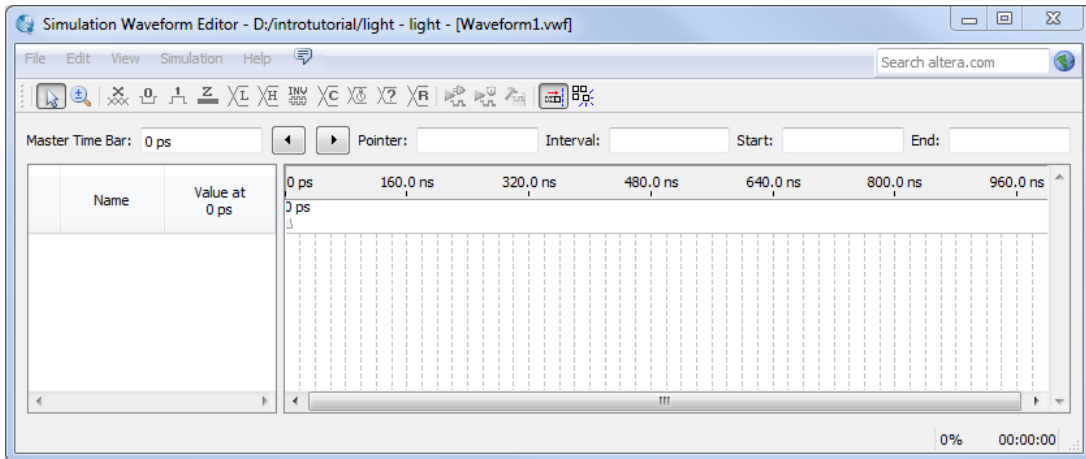
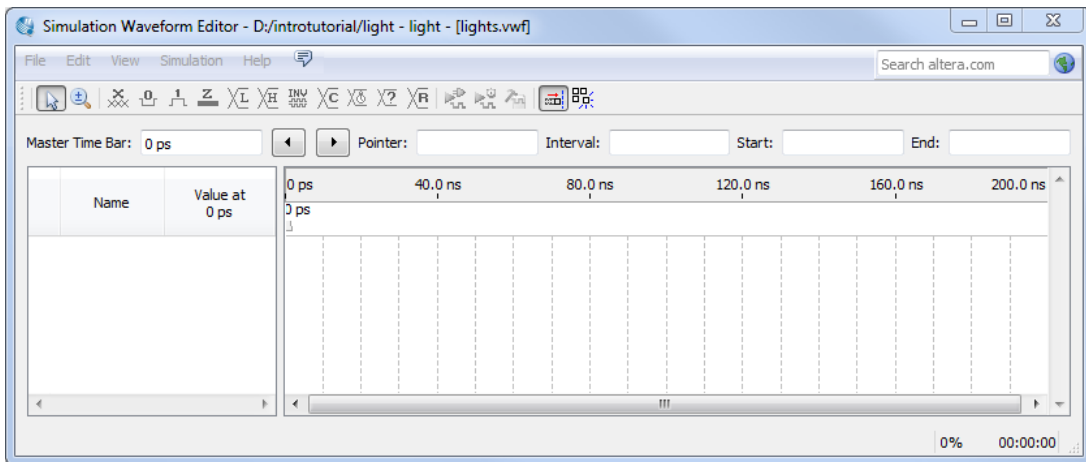

Figure 28. The Waveform Editor window.
Figure 29. The augmented Waveform Editor window.
2. The Simulation Waveform Editor window is depicted in Figure 28. Save the file under the name *lab1.vwf*; note that this changes the name in the displayed window. Set the desired simulation to run from 0 to 200 ns by selecting **Edit > Set End Time** and entering 200 ns in the dialog box that pops up. Selecting **View > Fit in Window** displays the entire simulation range of 0 to 200 ns in the window, as shown in Figure 29. You may wish to resize the window to its maximum size.